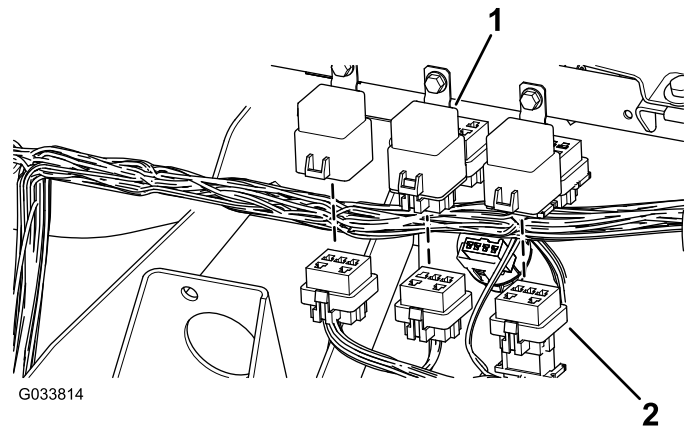

Figure 8
2. Connect the wire-harness connectors into the 3 relays (Figure 8).